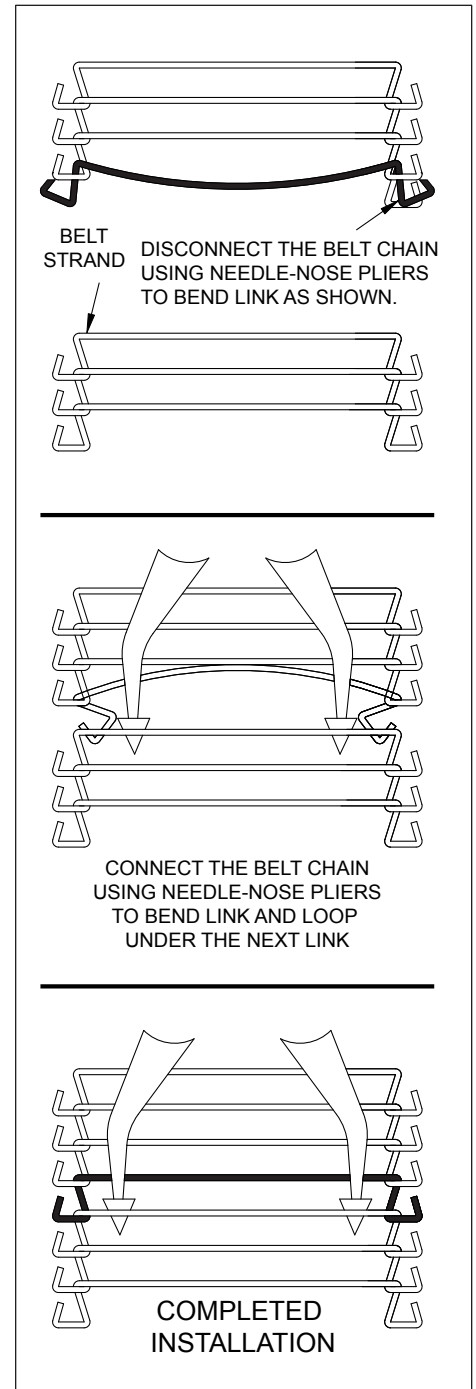

Figure 4. Disconnecting Conveyor Chain
4. Remove or add links as required. See figure 4.
4. Disengage the conveyor belt chain from both sides (Figure 4).
6. Refer to Figure 4 and install the new Conveyor Belt Chain around the sprockets.